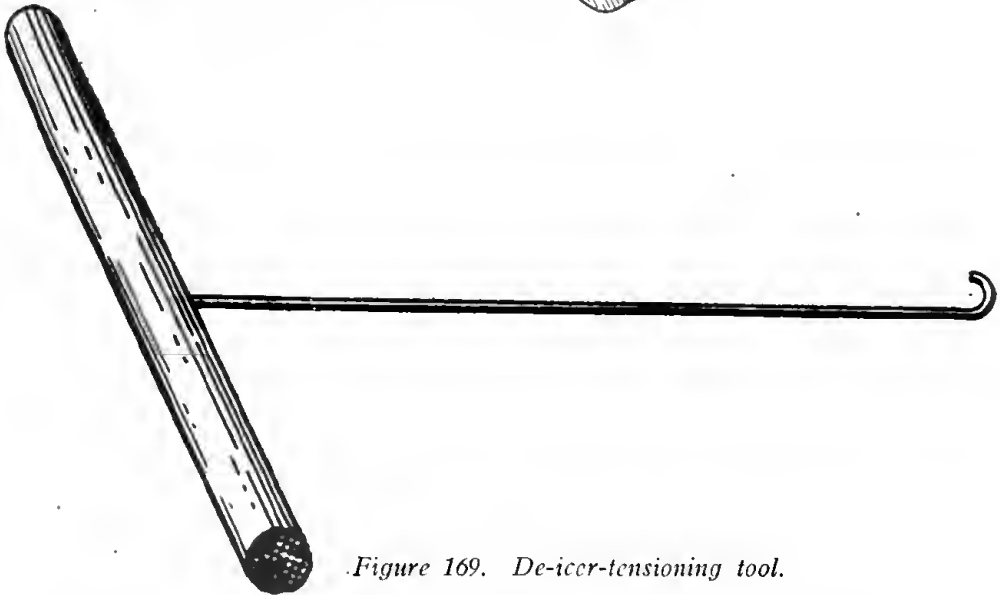

Figure 169. De-icer-tensioning tool.
c. DE-ICER-TENSIONING TOOL. The de-icer-tensioning tool shown in figure 169 is used when the pliers cannot be used. The hook is inserted through one of the holes in the boot to pull the boot to the desired position.